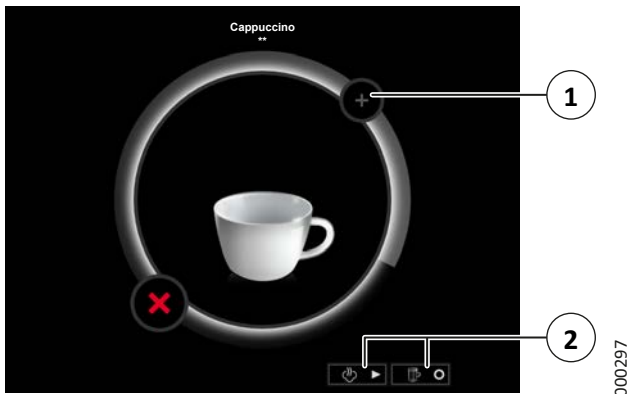

Fig. 24: Product dispensing with quick start buttons
Depending on the product preset, you can cancel the ongoing product output by pressing “X” during dispensing (see, for example, Fig. 24).
3. While the product is being dispensed, press “+” (1) (see Fig. 24) multiple times in succession depending on the number of additional portions that you would like to dispense.